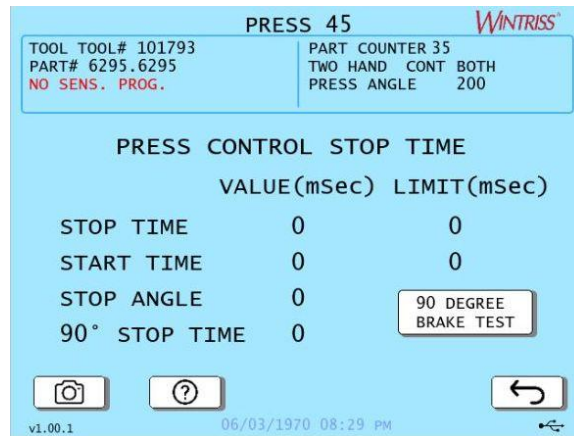

Figure 3-44. Press Control Stop Time Screen
- On the main Run screen, press Brake Monitor. The Press Control Stop Time screen appears, Figure 3-44.